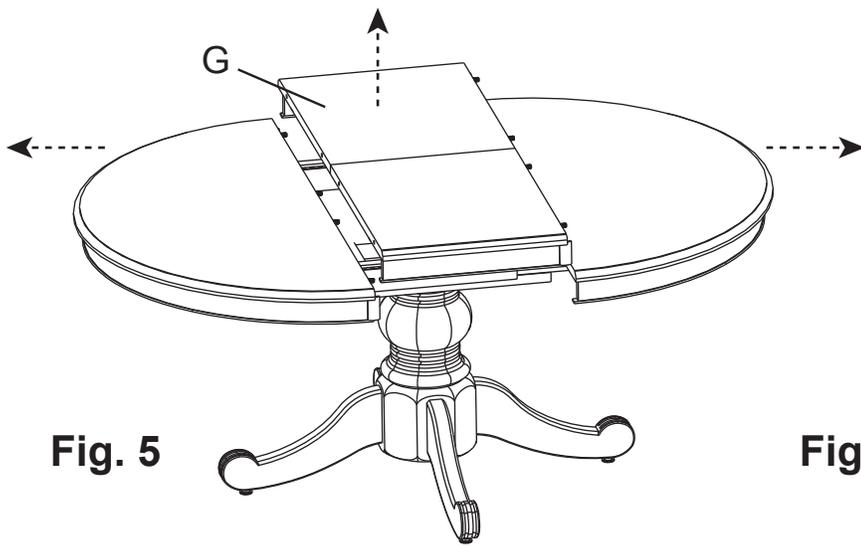
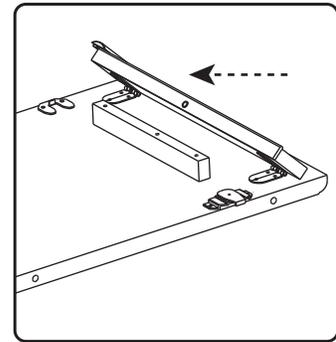
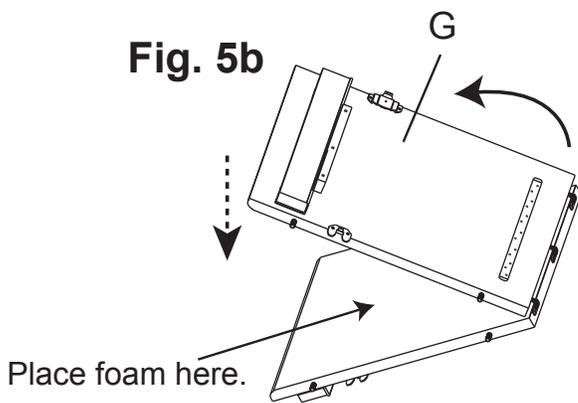
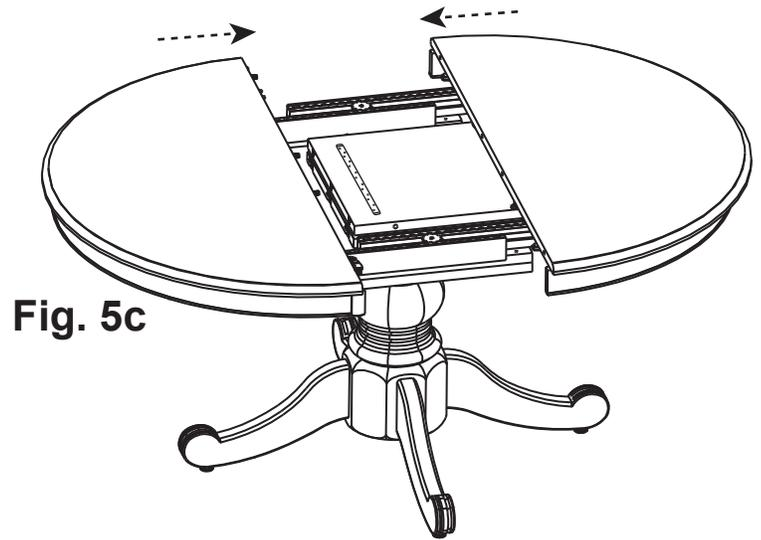

Fig. 5
Fig. 5a
Fig. 5b
Fig. 5c
5. To remove the leaf, release the locks underneath the table. Gently pull away the table ends until the guide pins pull out of the holes. Lift out the leaf and place it upside down on a clean protected surface. See Figure 5. Push flat the apron on each end of the leaf. See Figure 5a. To protect the finish, place foam in between the leaves. Fold the leaf in half as shown in Figure 5b. Place the folded leaf in the storage area underneath the table ends and push the ends tightly shut. See Figure 5c.